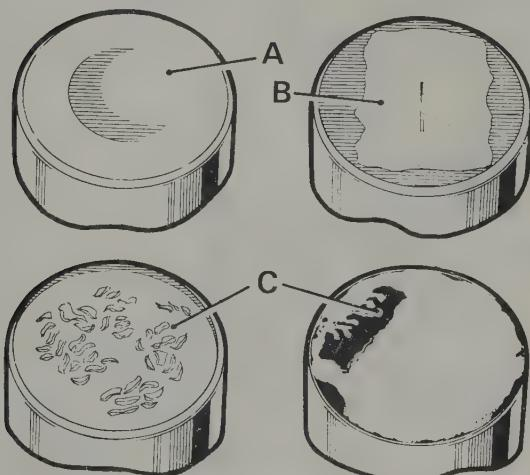

Fig. 1.16. Typical wear patterns on tappet block faces
5 Notes on tappet wear patterns (see Fig. 1.16). The tappet block must rotate and the circular pattern (A) is normal. If a